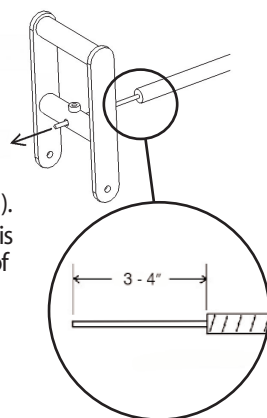

Figure 3
2. Loosen the set screw on the pull bar (Figure 3).
3. Pull the core wire out 3" to 4" (Figure 3).